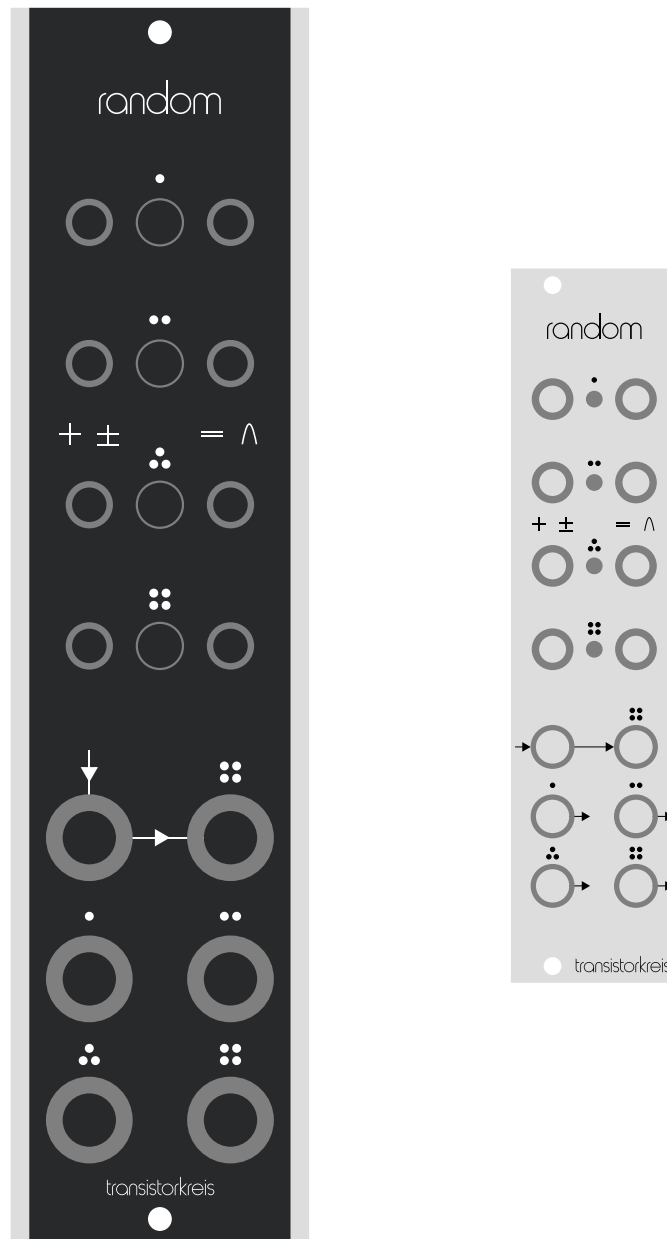

Figure 1: Front panel layout of the Moog and Eurorack version.
The transistorkreis random is available as DIY kit for the Moog format (MU) and the Eurorack format. Its design is generic and also supports any other modular format. Figure 1 shows the front panel layout of the Moog and Eurorack version. The transistorkreis random features: